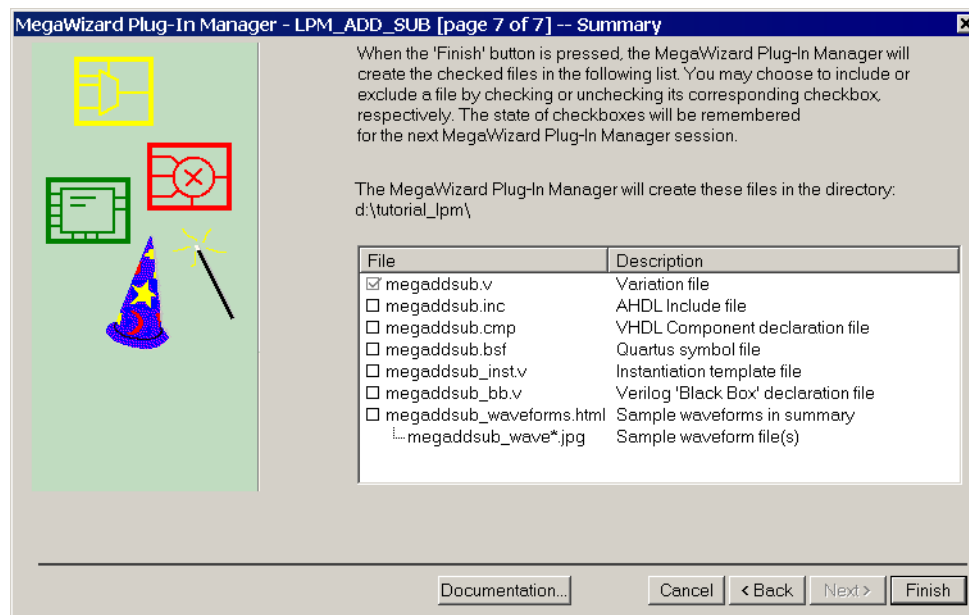

Figure 10. Files created by the wizard.
8. Figure 10 gives a summary which shows the files that the wizard will create. Press Finish to complete the process.